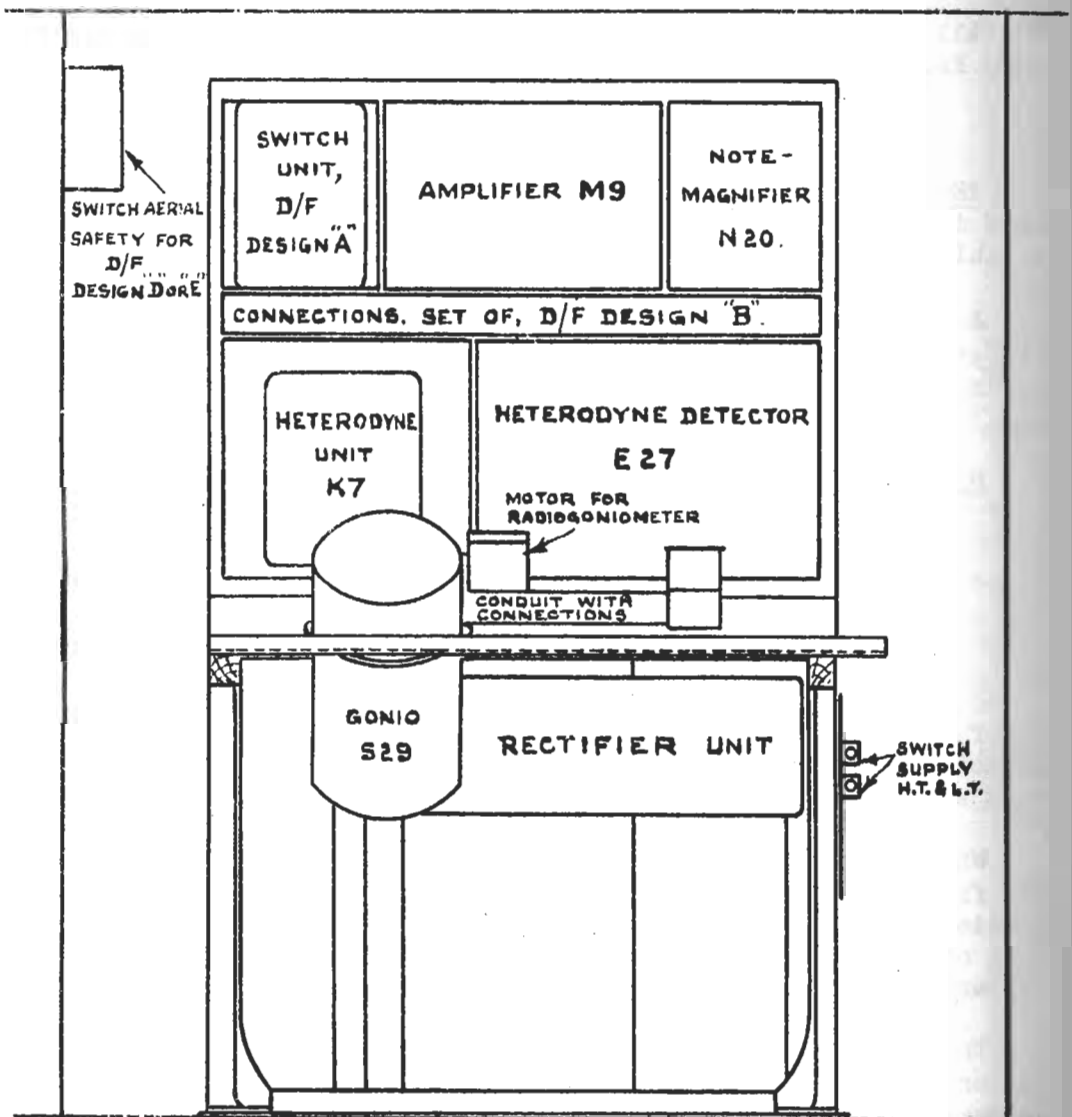

FIG. 28.
2. RECEIVING INSTRUMENTS. All the receiving instruments are grouped in one panel as shown in Fig. 28. The goniometer is supported on a table in front of the D/F panel.